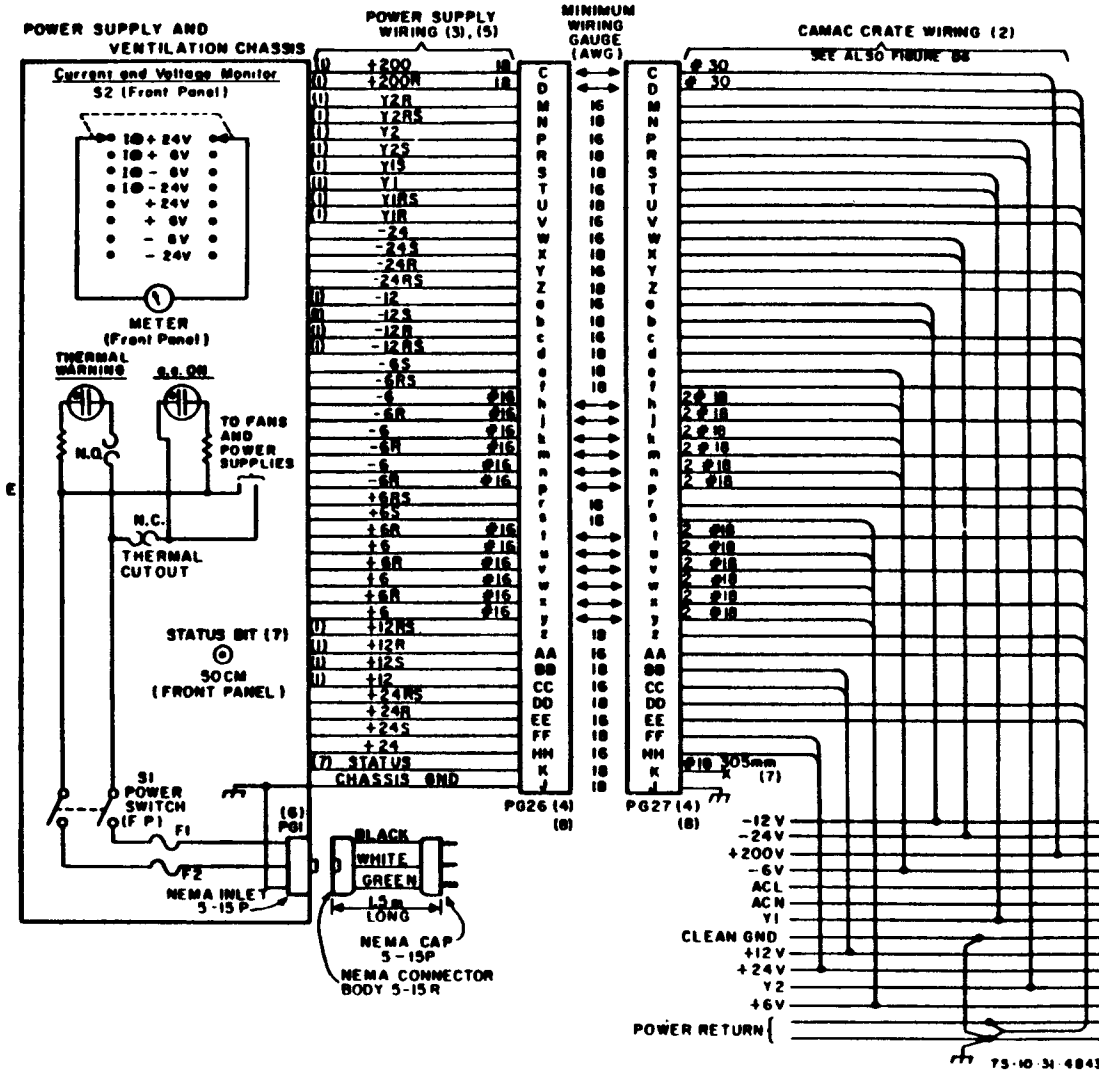

Fig D1
Due to the high operational reliability required, only the highest quality components should be employed. All semiconductor components shall be silicon and shall be encapsulated in metal or ceramic, hermetically sealed, cases. Components shall not be used beyond their design ratings. The supply shall be designed with a life expectancy of at least 5 yr. See Fig D1 for block diagram. Wiring to the right of PG-26 is not considered part of the power supply.
Remote sensing shall be utilized on all outputs of this power supply. Remote sense points can be expected to be within 305 mm of the crate connector, PG-27. All wiring shall be in accordance with Fig D1.
All wiring shall be as shown in Fig D1.
(1) When designed for use with 117 V ac mains, a three-wire power cord of approximately 1.5 m in length shall be included. It shall have a NEMA Cap, 5-15P. The power cord may be permanently attached to the power supply, or alternatively, may terminate in a NEMA Connector Body 5-15R, mating with a NEMA Inlet 5-15P on the power supply.
(2) The dc output power shall be supplied via a connector (PG-26) as designated in Fig D1, or mating equivalent. Wire size, socket types, and pin assignments are specified in Fig D1.
(2) A front panel neon lamp (or suitable solid state indicator) wired as shown in Fig D1 shall be provided to indicate the ac power on condition.
(3) A front panel thermal warning light, wired as shown in Fig D1, shall be provided. It shall light whenever the temperature within the supply exceeds a value 20°C below the maximum safe operating temperature.
Fig D1 interconnection block diagram.